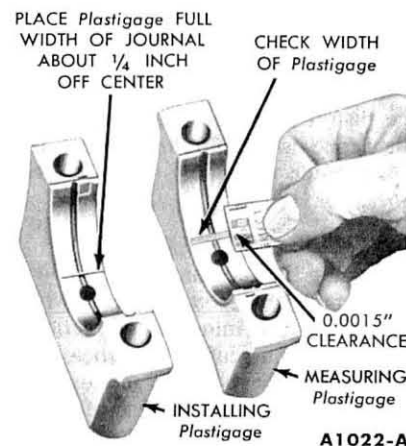

FIG. 24—Installing and Measuring Plastigage—Engine in Chassis
8. Place a piece of Plastigage on the bearing surface the full width of the bearing cap and about 1/4 inch off center (Fig. 24).